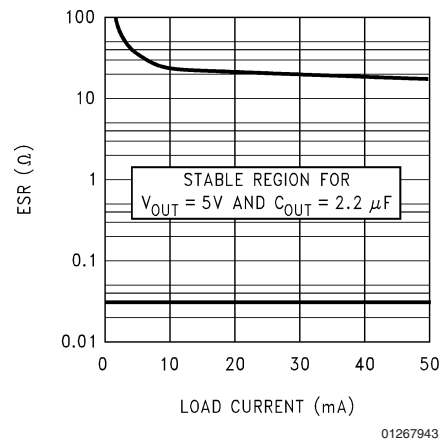
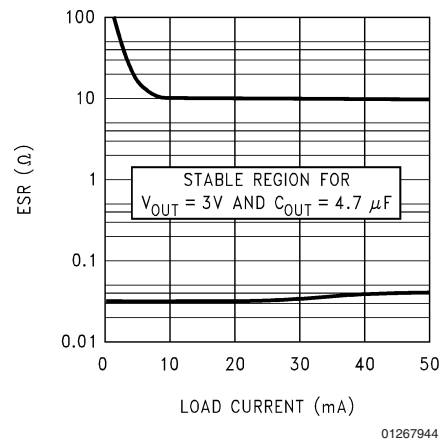

FIGURE 1. 5V/2.2  $\mu\text{F}$  ESR Curves
FIGURE 2. 3V/4.7  $\mu\text{F}$  ESR Curves
**Output Capacitor:** The output capacitor must meet both the requirement for minimum amount of capacitance and E.S.R. (equivalent series resistance) value. Curves are provided which show the allowable ESR range as a function of load current for various output voltages and capacitor values (refer to Figure 1, Figure 2).